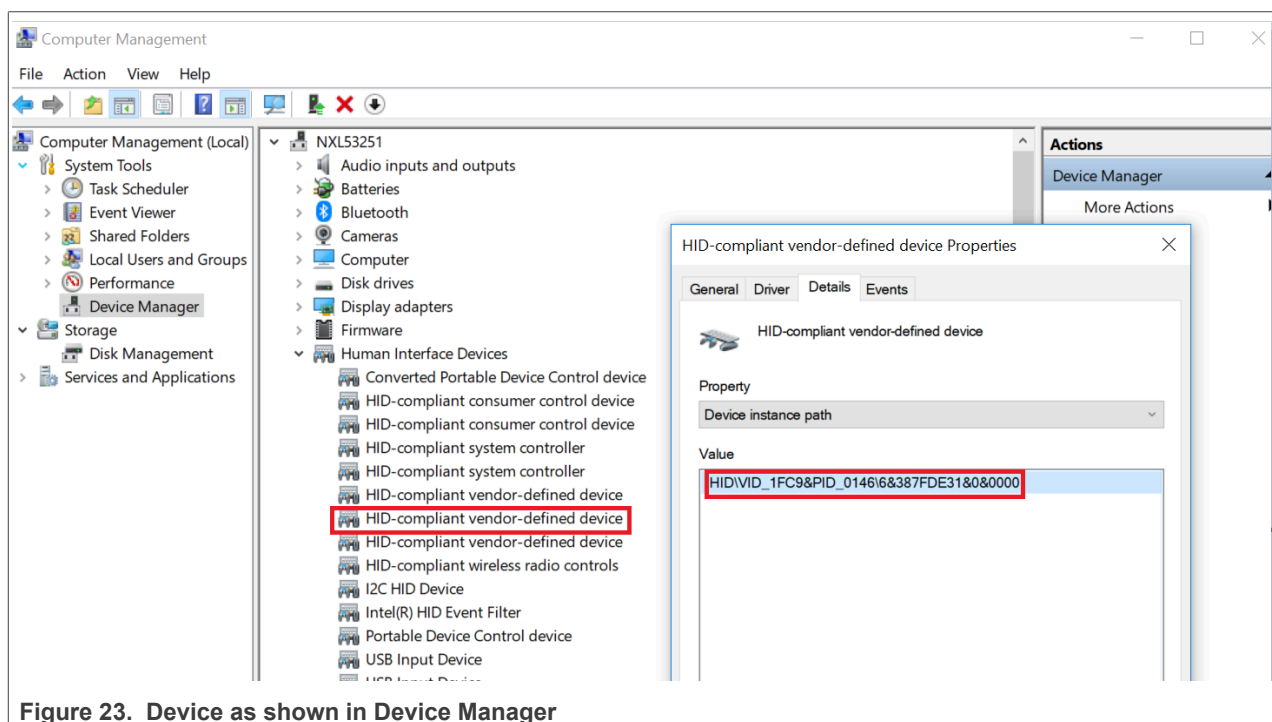

Figure 23. Device as shown in Device Manager
4. The PC recognizes the i.MX 93 device as (VID:PID)=(1FC9:0146), as shown in Figure 23.